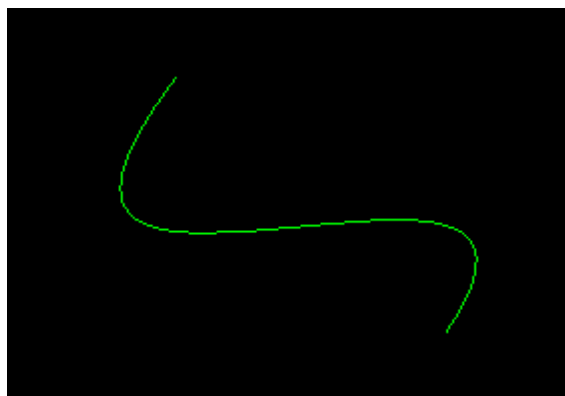

Figure 6-7
Step 3: Click the left mouse button and drag the curve to another target position, as shown in Figure 6-7. The curve color is the foreground color.